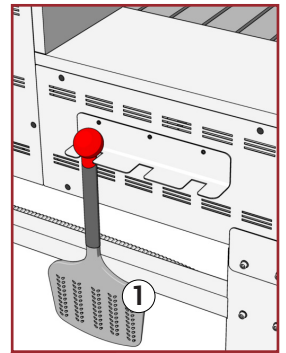

Fig. 23
During normal operation of the oven, the cooking belt reaches high temperatures. For this reason, the pizza should only be loaded by means of the appropriate placement peel (1) (see Fig. 23).